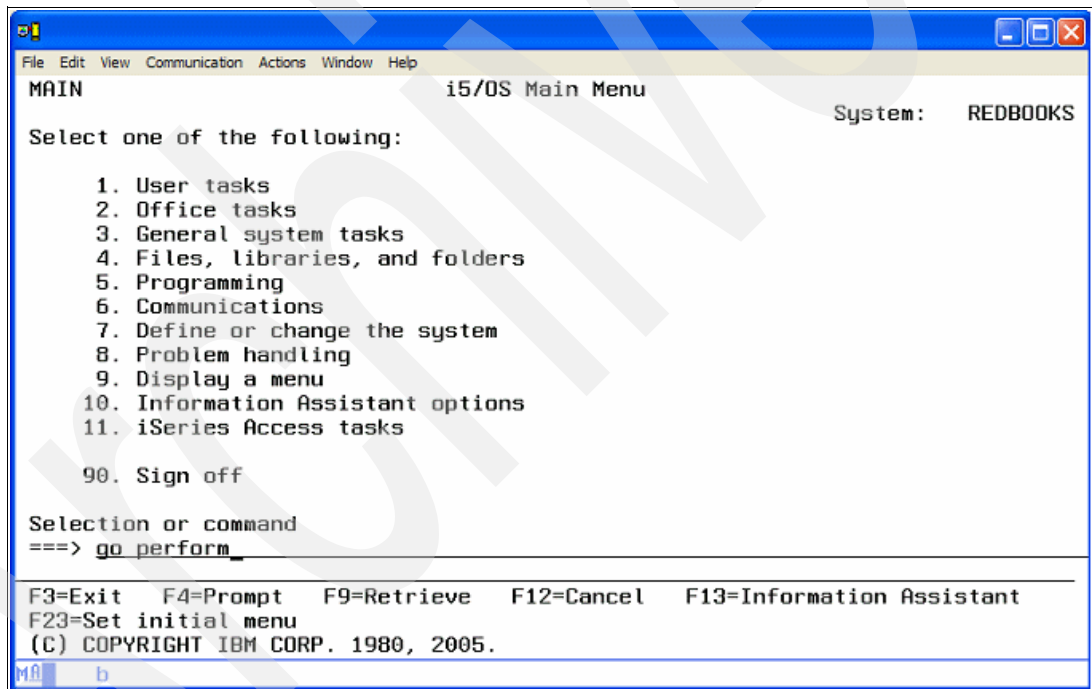

Figure A-1 Performance tools invocation
1. Enter **go perform** on the command line to access the main panel, as shown in Figure A-1.